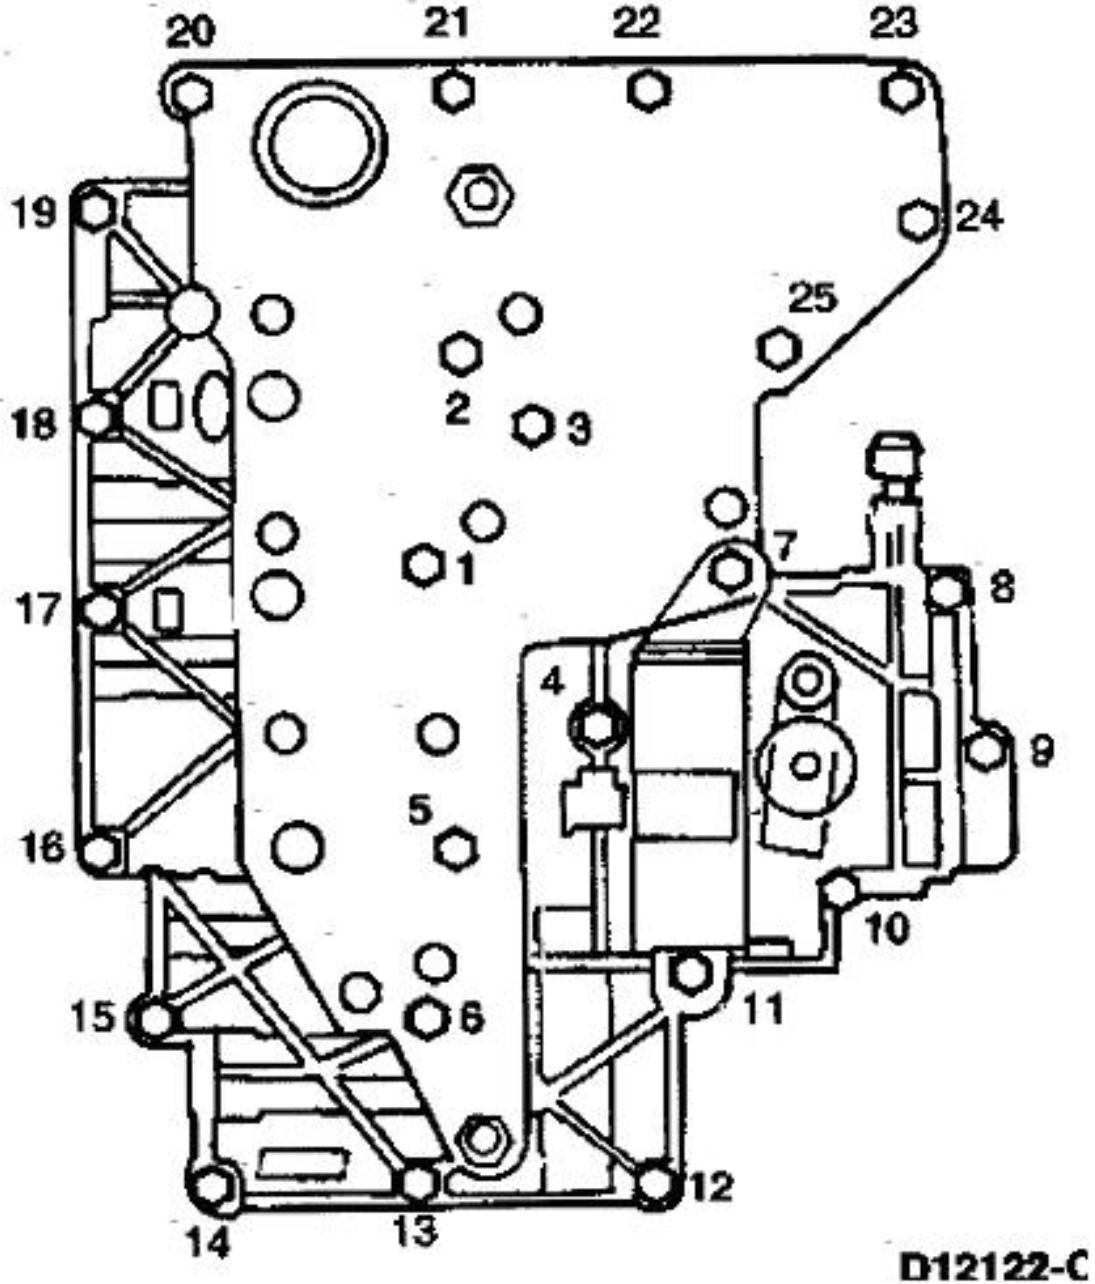

Figure 2
- Set your cordless drill to the lowest clutch setting (lightest) and set all bolts; using the included bolt pattern diagram at the end of this document (Figure 2)
- Now torque all bolts to 90 inch pounds using the included bolt pattern document (Figure 2).